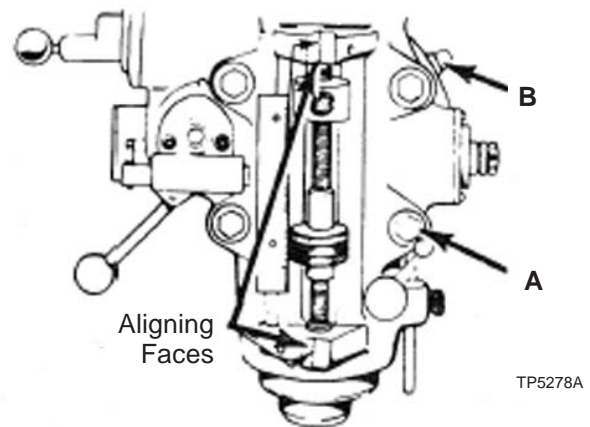

Figure 2.3 - Positioning Head
2. Loosen four locknuts "A", Figure 2.3, and pull safety pin "C", Figure 2.4 out to detent. Using the swivel bolt "B", Figure 2.3, rotate head attachment in either direction until it is within approximately 20% of vertical.